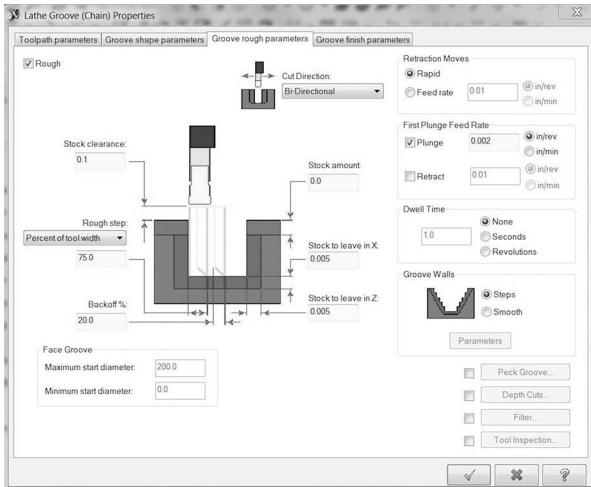

Figure 5-71 Groove Rough Parameters
- Set the Groove rough parameters tab, as shown in Figure 5-71.